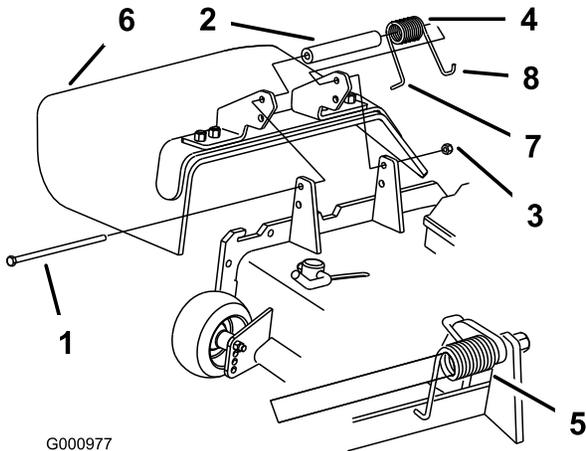

Figure 89
1. Remove the locknut, bolt, spring and spacer holding the deflector to the pivot brackets (Figure 89). Remove the damaged or worn grass deflector.
Note: Make sure the L end of the spring is installed behind the deck edge before installing the bolt as shown in Figure 89.
3. Install the bolt and nut. Place the J hook end of the spring around the grass deflector (Figure 89).